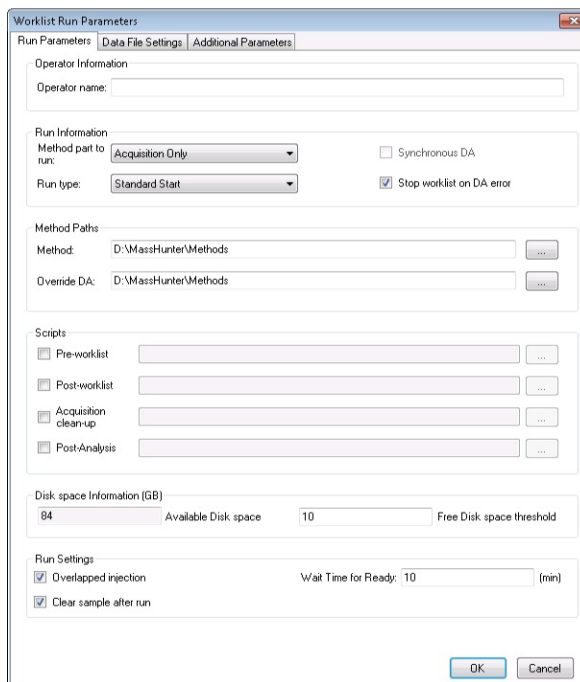

Figure 66 Worklist Run Parameters dialog box
- Before or after a worklist and after data acquisition (Figure 66 on page 131)